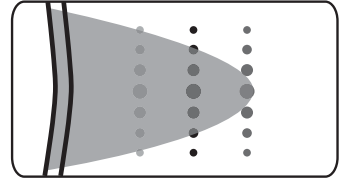

Fig. 6: Downhaul to maximum
b) **Set your downhaul to maximum** by downhauling until the leech looseness extends to the forward three red dots printed between battens #2 and #3 (fig. 6).